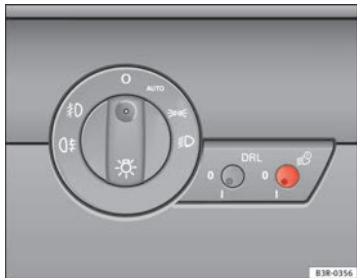

Fig. 87 Detailed view of the dash panel: Coming home and leaving home functions
- Briefly press the knob ⇒ fig. 87 to release it from its set position.